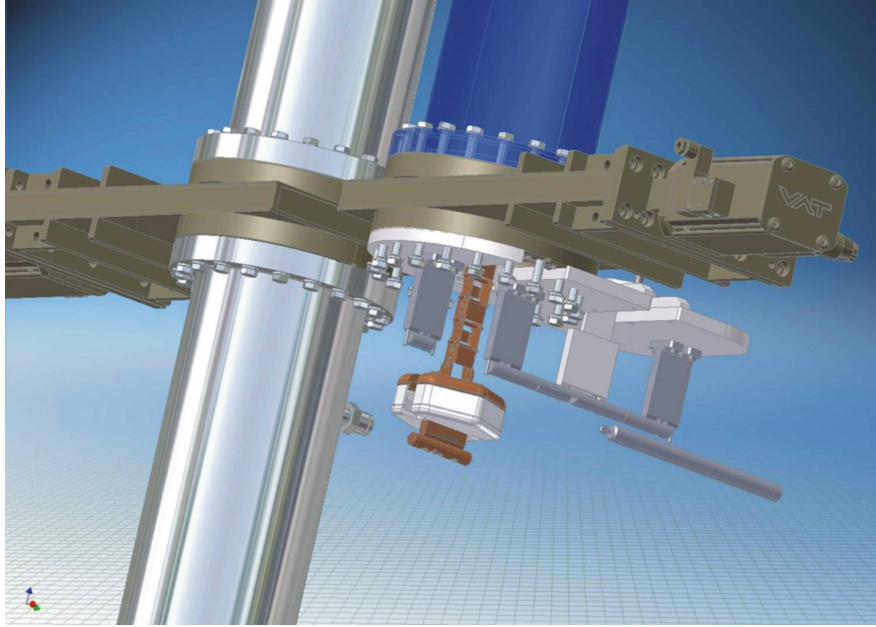

Fig 3.8. To perform “Homing” the temporary rail system has to be mounted already.
For “Homing”, the temporary rail system has to be mounted and the matrix plate should already be close underneath the rail system, since “Homing” is a process that causes some mechanical stress to the whole system. For this reason the velocity of the movement of the matrix plate is set to be very slow. To perform “Homing” select the accordant motor program with the arrow up/down – buttons (11) and press 'start' (12). Figure 3.8 shows the setup required to perform “Homing”.